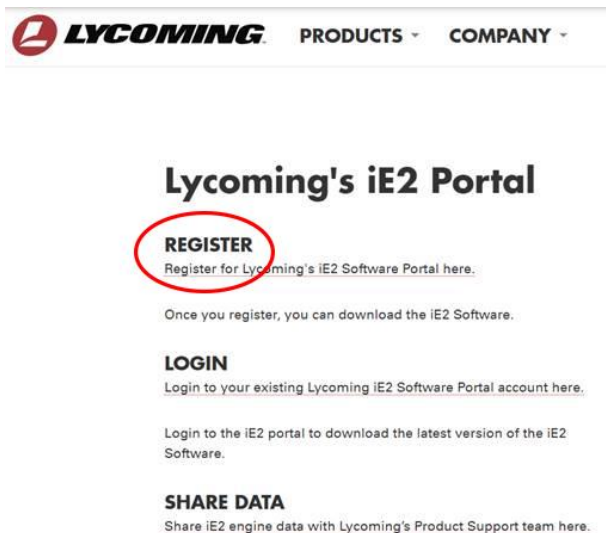

Figure 2
3. If you are not already registered, click on **REGISTER** (Figure 2) and enter your email address and name (Figure 3) on the First-Time Registration Page.